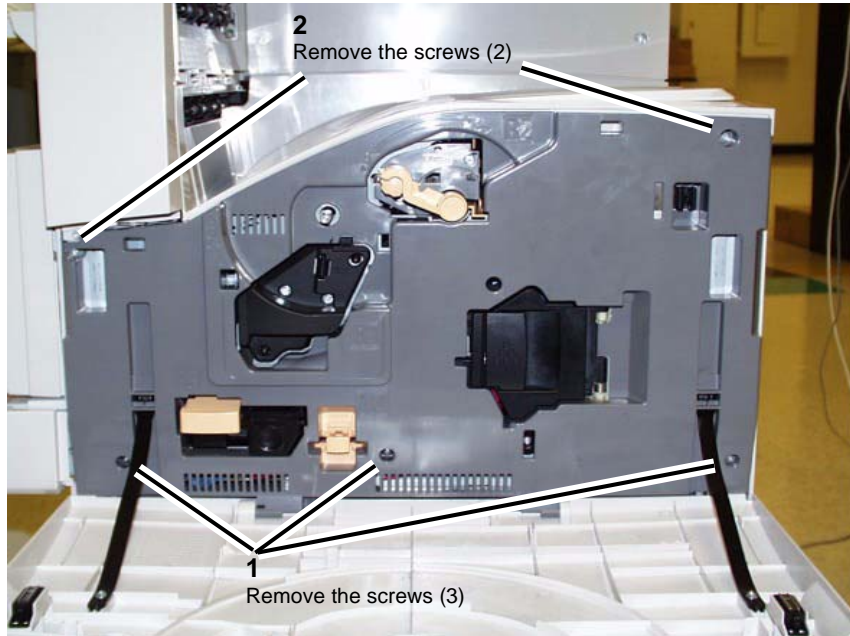

Figure 2 Remove the Front Cover
3. Remove the Front Cover. (Figure 2)